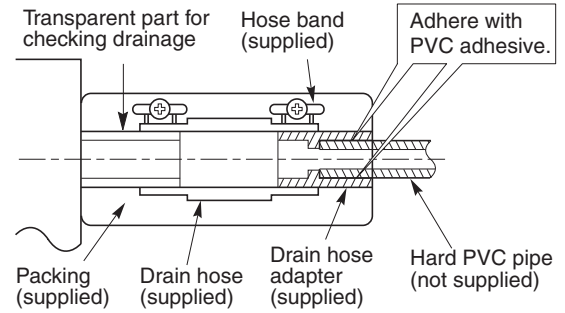

Fig. 1-51
- Prepare standard hard PVC pipe for the drain and use the supplied drain hose and hose band to prevent water leaks. The PVC pipe must be purchased separately. The transparent part allows you to check drainage. (Fig. 1-51)
(Fig. 1-51)